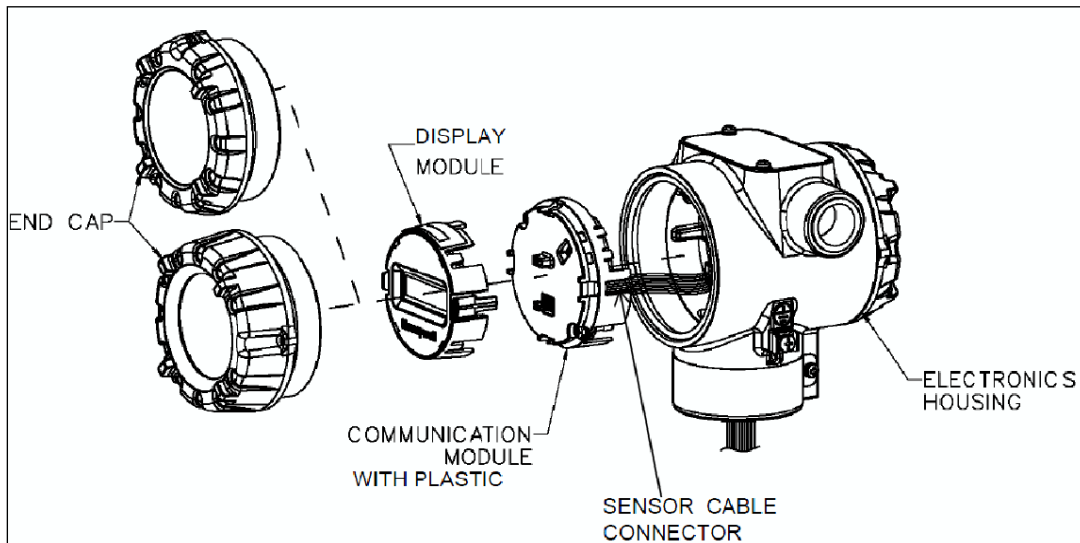

Figure 25 – ST 700 Standard Transmitter - Disassembly for Meter Body Replacement
4. Refer to Figure 25. Loosen the End Cap Lock, and unscrew the End Cap from the electronics side of the Transmitter housing.